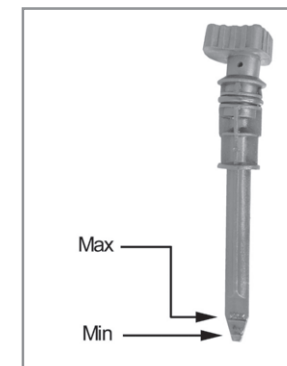

Figure 3
2. Ensure the oil level is between the min and max marks on the dipstick. See figure 3.